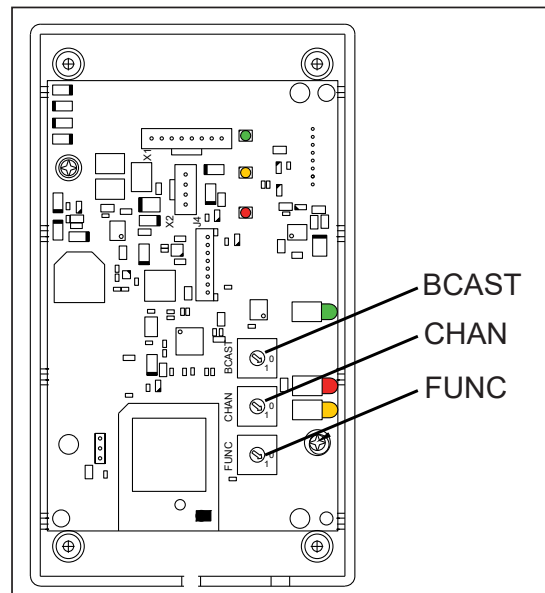

Figure 12: Radio Receiver Switches
5. Use a small flathead screwdriver to set the CHAN and BCAST switches to a new channel and broadcast group (1-8) as needed. Be sure to always leave FUNC set to "1". Refer to **Figure 12**.